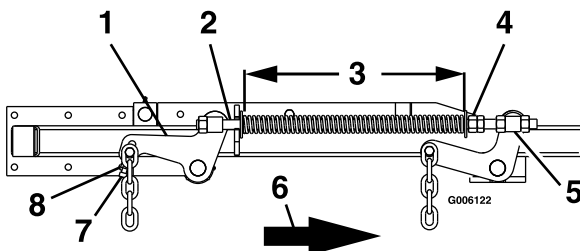

Figure 17
5. Raise the deck to the 5 inch (12.7 cm) height position (also transport position) and take all force off of the two large deck lift springs by loosening the nuts at the front of each spring (Figure 17).
6. Lower the deck to the 1 inch (2.54 cm) height position. Force the left rear deck support arm downward about 1/4 inch (6.4 mm) to get the deck to rest at the 1 inch height position. Place locking pliers between the rear swivel and spring stop to hold the deck in this position (Figure 17).
12. Raise deck lift lever to the 5 inch (12.7 cm) cutting height position (Figure 9). Adjust spring compression until proper distance is obtained between the two large washers (Figure 17). Adjustment is made by turning the nut at the front of each spring (clockwise will shorten the spring, counterclockwise will lengthen the spring). Lock in position with jam nuts.